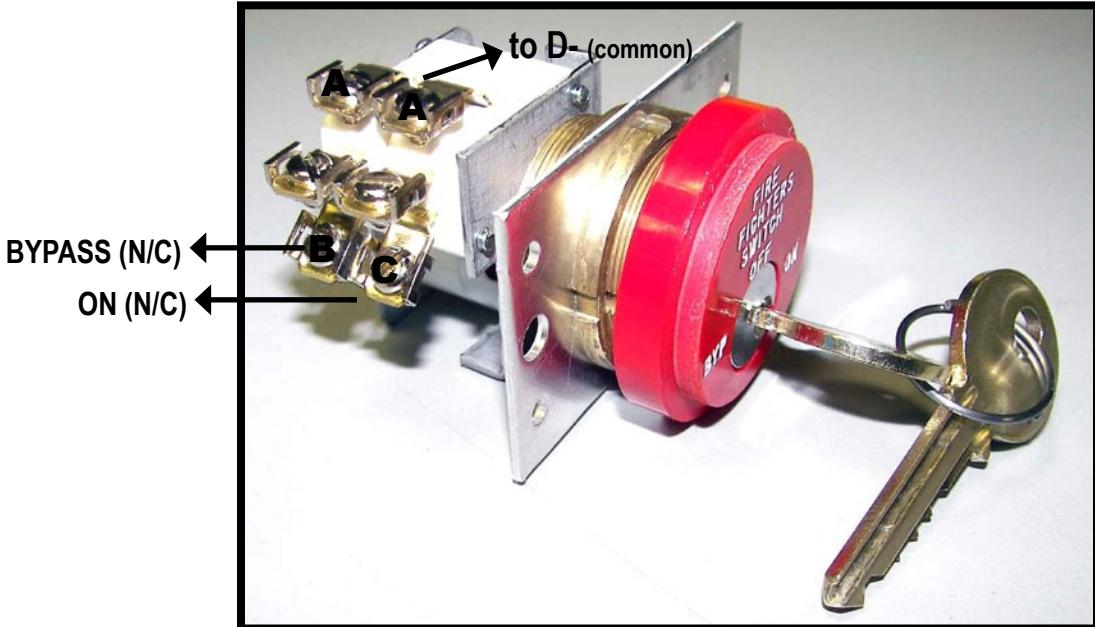

Figure 1 NJ Hall Station Keyswitch
- 3) Connect the wiring from the Dupline board to the NJ Hall Station Keyswitch (marked BYP) as follows. Refer to Figures 1, 2 and 3.